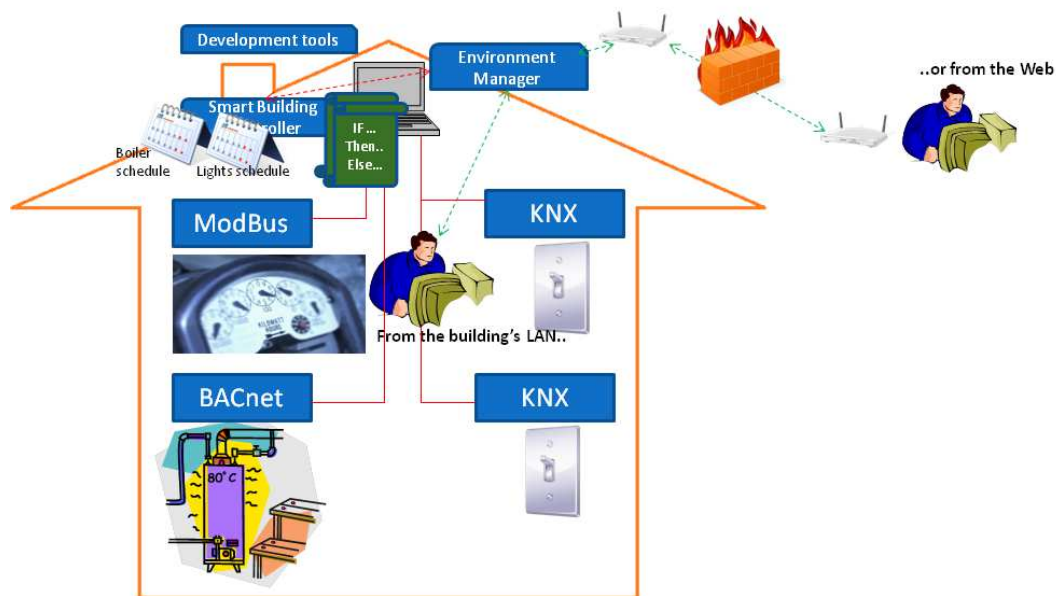

Figure 7. Supervise and control
- The user can supervise and control the system from the building's LAN or from the Web (figure 7)